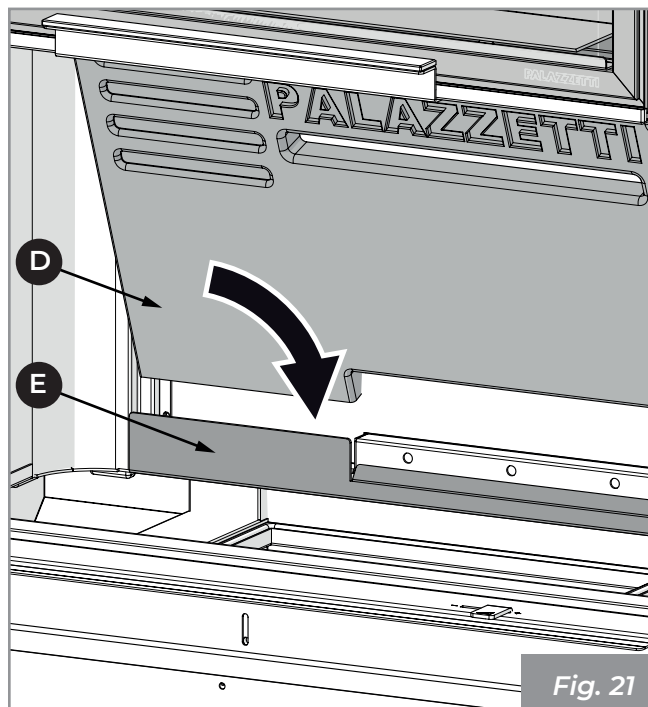

Fig. 21
- 4) Place the refractory backrest (D) behind the bracket (E) and make sure that the post combustion outlet holes are centred with the slot on the panel (Fig. 21).